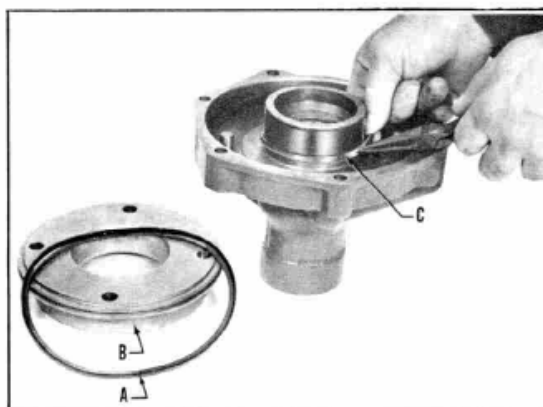
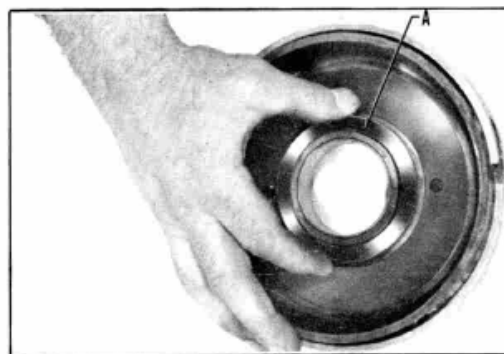

Figure 24
Figure 25
11. Remove the reverse piston outer oil seal (A) from reverse piston (B), Figure 24.
12. Remove the reverse piston inner oil seal (C) from the hub on the rear bearing retainer.
13. Remove the large bronze thrust washer (A) from the reverse internal gear, Figure 25.
9. Install the large bronze thrust washer (A) over collar of the reverse internal gear and retain with petrolatum, Figure 25.